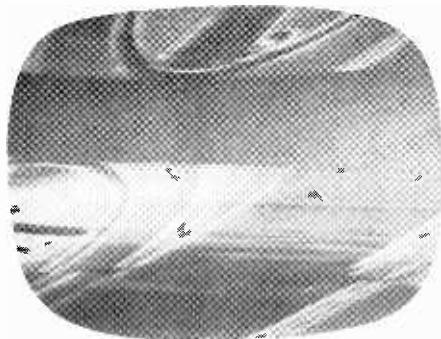

Fig. 25. A badly distorted or negative picture is generally due to defective a.g.c. circuits, defective or overloaded video detector.
**NEGATIVE PICTURE (MAY BE ACCOMPANIED BY LOSS OF SYNC); RASTER OKAY; SOUND MAY BE NORMAL OR MIXED WITH BUZZ** When the whites are black, and the blacks are white on your TV screen and the sync is upset, as shown in Fig. 25, the trouble is usually due to an overloaded or defective detector. Overload can be caused by an upset in the a.g.c. circuits, by too strong a signal, or by a defect in any of the circuits from the tuner through the detector right up to the signal takeoff point for the a.g.c. amplifier. Loss of the keying pulse from the horizontal output circuit to the a.g.c. tube will knock out the